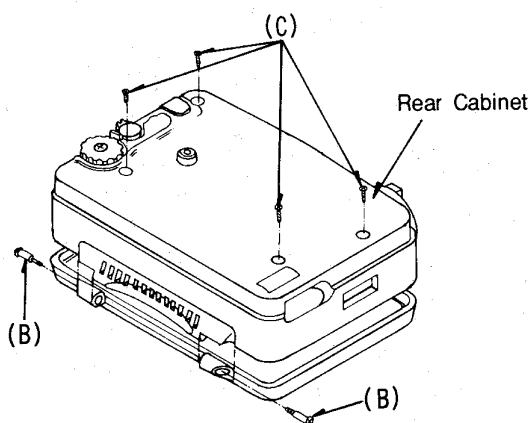

Fig. 3
- Remove the screws (B) (QH1362KA)×2 (See Fig.3)
- Remove the screws (C) (2×10)×4 (See Fig.3)